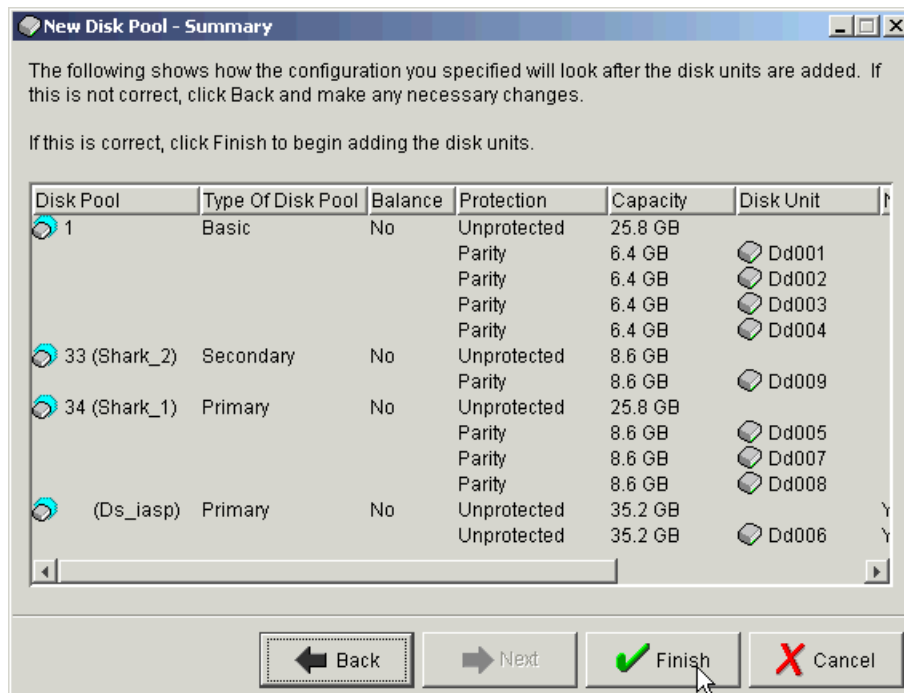

Figure B-17 New Disk Pool Summary
- A summary of the Disk Pool configuration similar to Figure B-17 appears. Click **Finish** to add the disks to the Disk Pool.